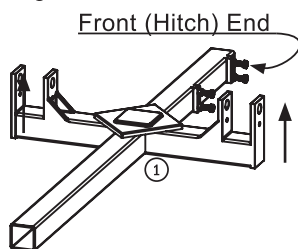

Fig. 1
Step 2: Unpack the accessible items. With the top removed carefully remove each piece in the Bed (16) and set them aside. Place similar items together to easily find them.
Step 4: Lay out the frame parts. In a well-lit area with enough room to assemble and move the trailer around, set the Main Frame (1) onto the floor with the axle tangs facing upwards as shown in Fig. 1. NOTE: the front end (the end where the hitch is installed) of the trailer is the end with the two bosses with four M12 tapped holes.